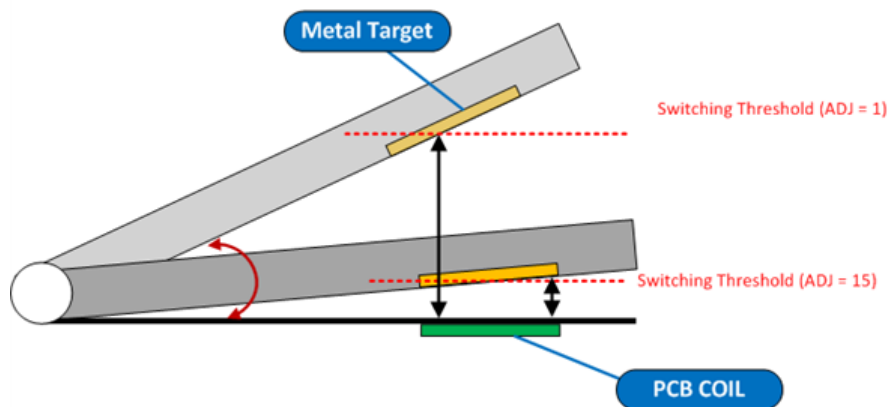

Figure 3. Different ADJ Codes Affect the Switching Threshold
- You must use threshold adjust mode ($1 \leq ADJ \leq 15$) if there is no fixed target present near the reference coil. In this mode, the reference coil inductance has an offset subtracted to alter the switching threshold. Operating in threshold adjust mode ensures that the sense coil inductance is greater than the reference coil inductance at an infinite target distance, and therefore that the release point is well defined. This is the case in both stacked coil application and side-by-side coil applications. Within threshold adjust mode, $ADJ = 1$ produces the largest sensing range and $ADJ = 15$ the smallest, as shown in Figure 3. Note that the switching distance is also a function of the outer coil diameter.